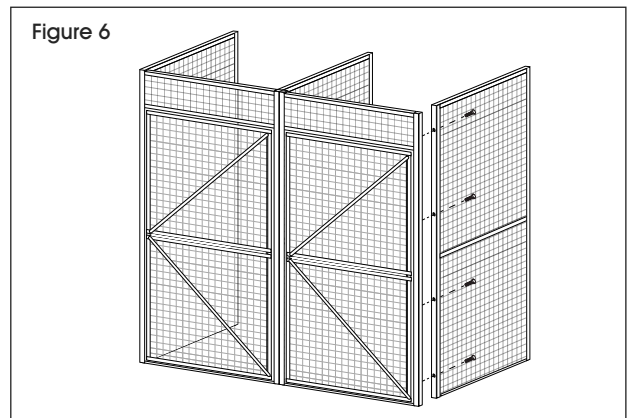

Figure 6
2. Bolt side panel to door frame by inserting four short hex head bolts through side panel holes into threaded holes in door frame. (See Figure 6)